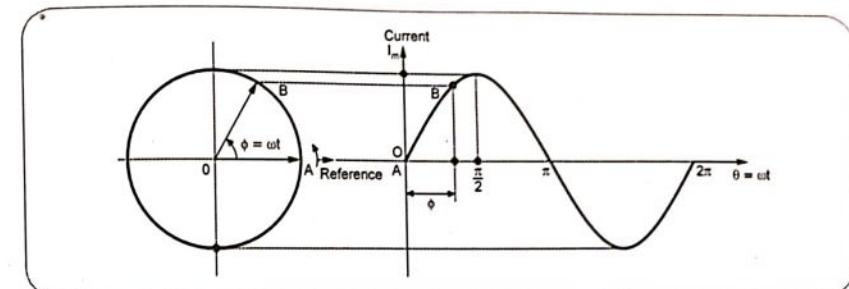

Fig. 2.11.1 Concept of phase
- Let X-axis be the reference axis. So, phase of the alternating current shown in the Fig. 2.11.1 at the instant A is  $\phi = 0^\circ$ .